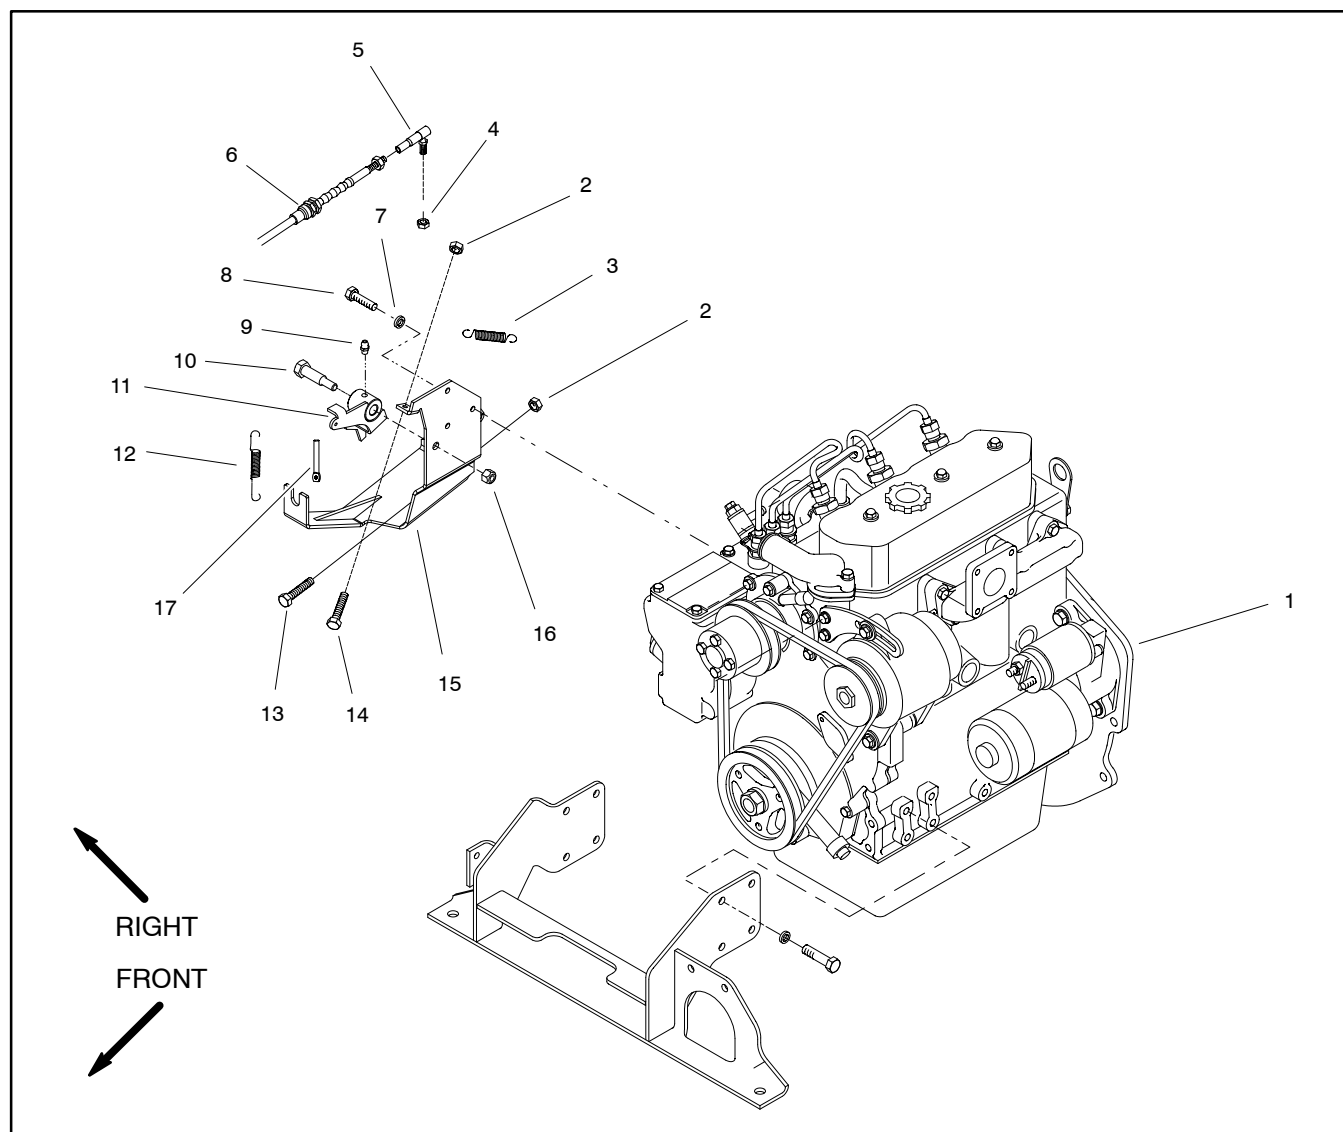

Figure 17
Disassembly (Fig. 17)
1. Remove throttle bracket components from engine as needed using Figures 17, 18 and 19 as guides.
Assembly (Fig. 17)
1. Install removed throttle bracket components to engine using Figures 17, 18 and 19 as guides.